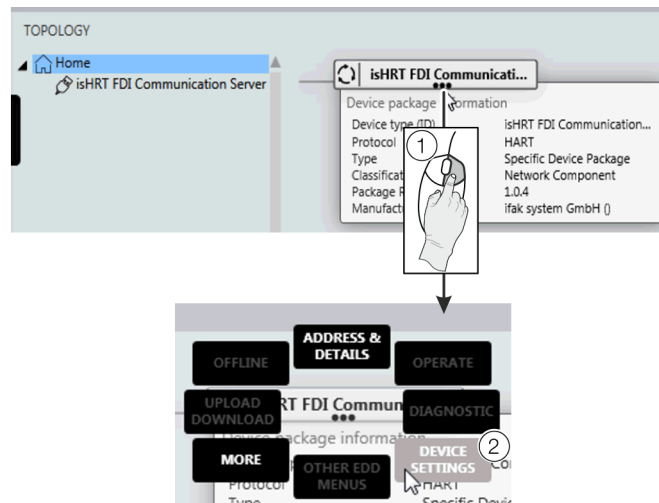

Figure 84: Select FIM – 'Device Settings'
6. Right-click ① as shown in **Figure 84**.
7. Select 'DEVICE SETTINGS' ② as shown in **Figure 84**.